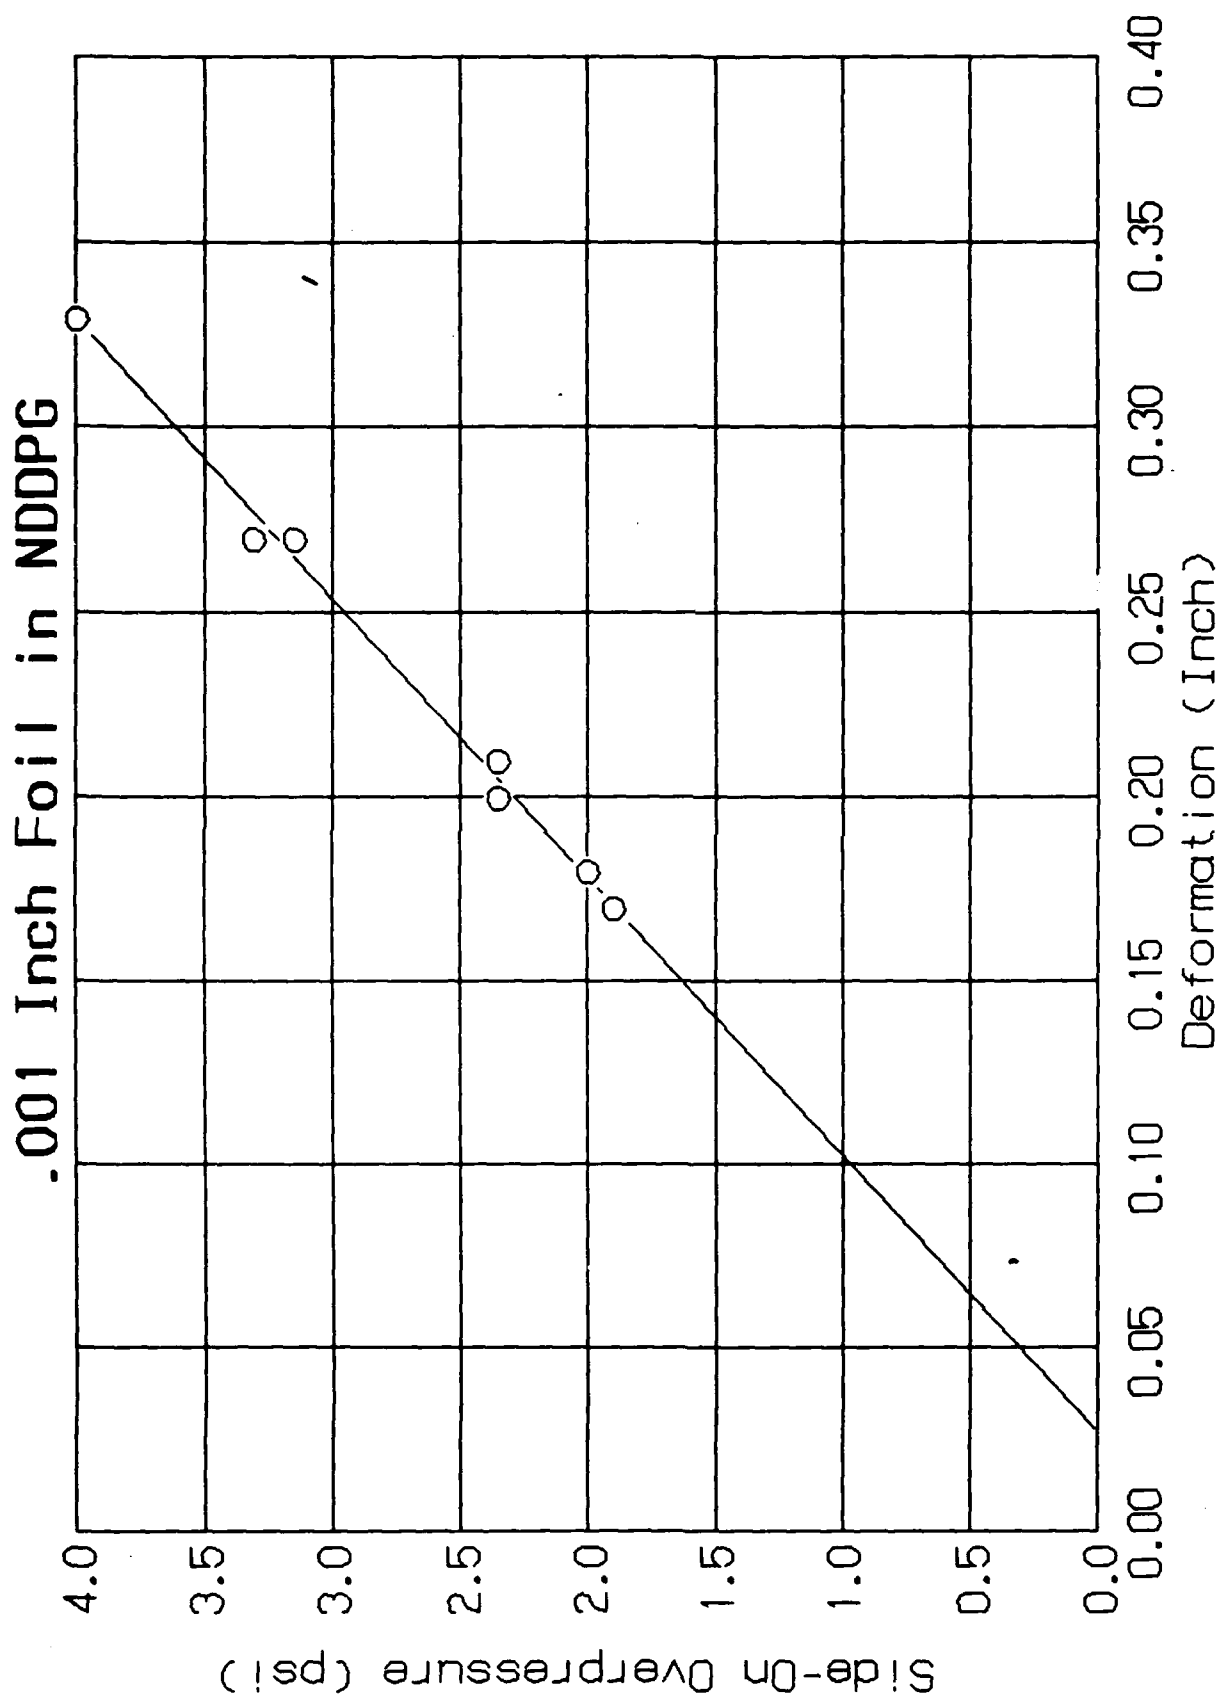

Figure 9. (U) CORRELATION CURVE C-3
- Figure 9. Correlation curve "C3": Side-on overpressure (PSI) correlated with deformation only (inch), using .001-in. foil 13
2.11.7 Calibration Curve "C3." Choose calibration curve "C3" to determine side-on overpressure when only deformation occurs. This curve correlates side-on overpressure with deformation for .001-in. foil, with the plane of the foil oriented normal to the direction of propagation of the initial shock (Figure 9).